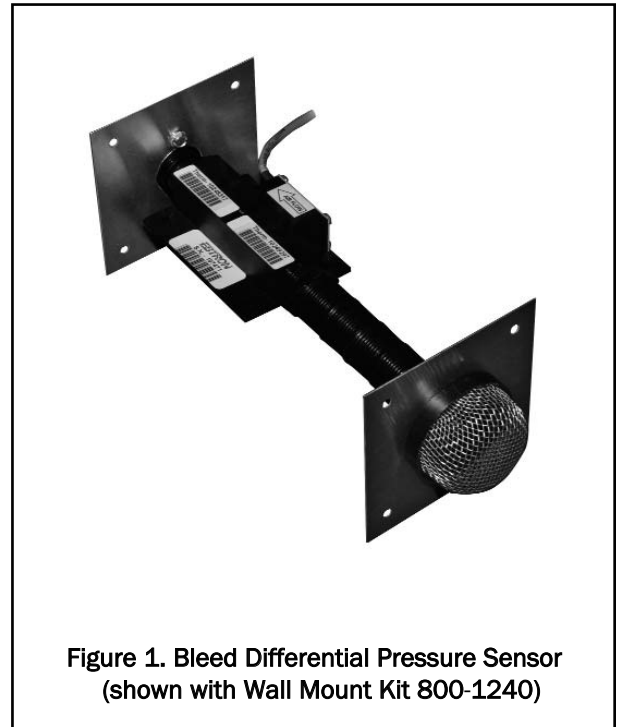

Figure 1. Bleed Differential Pressure Sensor (shown with Wall Mount Kit 800-1240)
- Wall mounting kit (Figure 1 - P.N. 800-1240) is designed for through-the-wall measurement between adjacent spaces (wall thickness 5 to 8 inches (12.7 to 20.3 cm)).